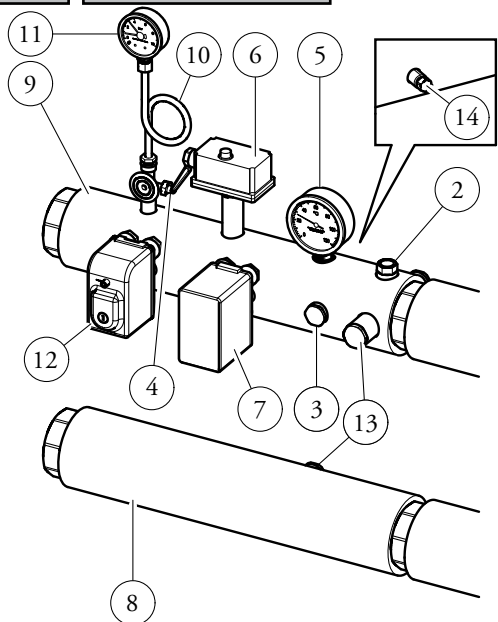

Fig. 3
If installing the INAIL safety devices kit on the left side, perform the installation as shown in figure 3 making sure you have previously installed the pressure switches (7 and 12) so that they are accessible from the front of the boiler and tightened the plugs (14) on the opposite side.